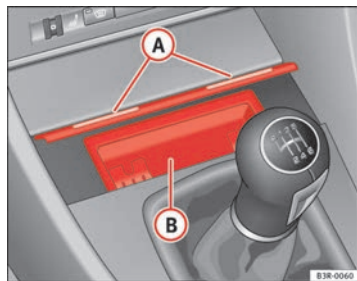

Fig. 133 Centre console:
- Lightly press the front part of the ashtray **A** ⇒ fig. 133.
- Take hold of the sides of the ashtray **B** ⇒ fig. 133 and lift it out.